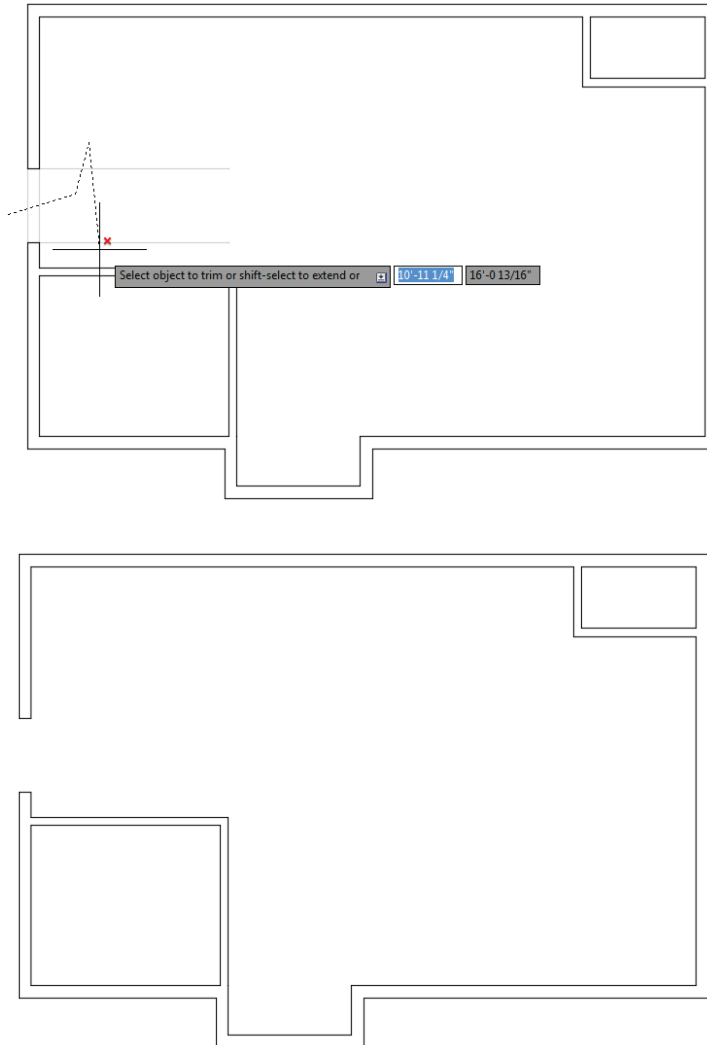

FIGURE 4.31: Using the Trim Fence option to trim away the unneeded lines
- Draw a fence line as shown at the top of Figure 4.31. The result should look like the bottom of Figure 4.31.